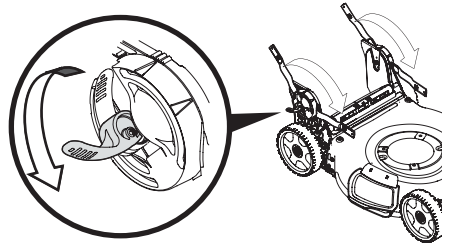

Figure 11
2. Unlock the two handle release levers (Figure 11, inset).